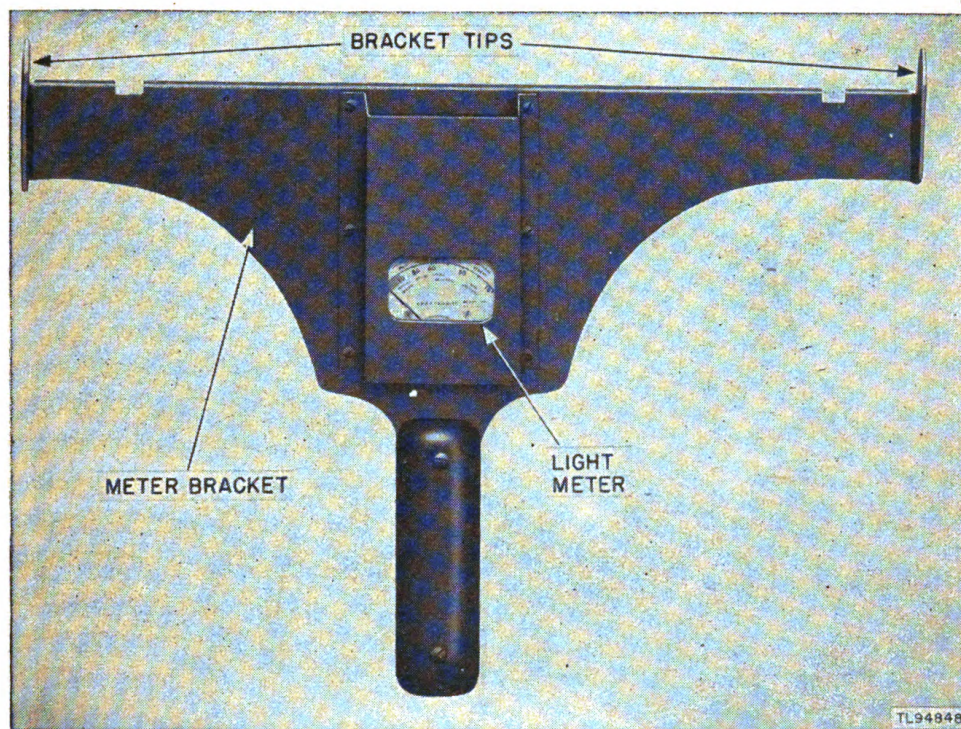

Figure 4. Light meter in recorder light testing bracket.
h. Remove the multiplying plate from the light meter, and install the meter into the bracket (fig. 4).